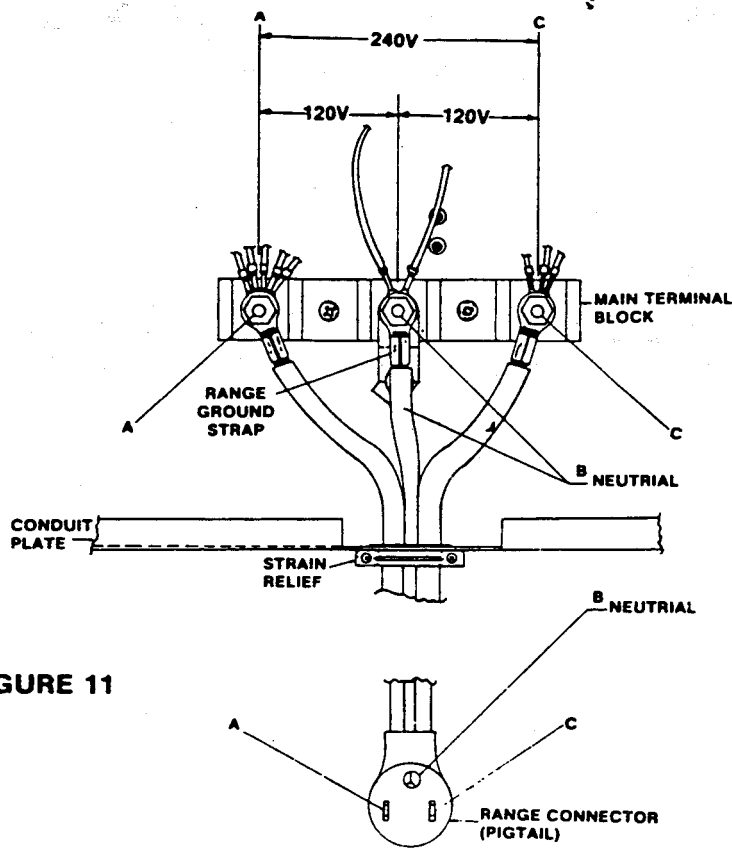

FIGURE 11
With range connected to electricity by means of an approved range connector (pigtail) Figure 11, voltmeter reading between (across) terminals (A) and (C) should be approximately 240V.A.C. Voltmeter reading between terminal (B) and terminal (A) should be approximately 120V.A.C. Voltmeter reading between terminal (B) and terminal (C) should be approximately 120V.A.C. Center terminal of main terminal block is neutral. Range frame is connected to neutral at this point by a ground strap and screw.
A. Check incoming voltage at range main terminal block (pigtail) Figure 11.
10. K.W. (stamped on model plate) X 1,000 = 10,000 watts. Voltage (at terminal block) is 240 V.A.C. See Figure 11 $10,000 \div 240 = 41.6$ (AMPS). This indicates a fuse or circuit breaker with a rating of slightly over 41 AMPS would be needed.
With range **disconnected** from electricity, ohmmeter set at RX1, there should be continuity between point (A) at end of range connector (pigtail) and point (A) at main terminal block Figure 11. There should be continuity between point (B) (neutral) at end of pigtail and point (B) at main terminal block. There should be continuity between point (C) at end of pigtail and point (C) at main terminal block.